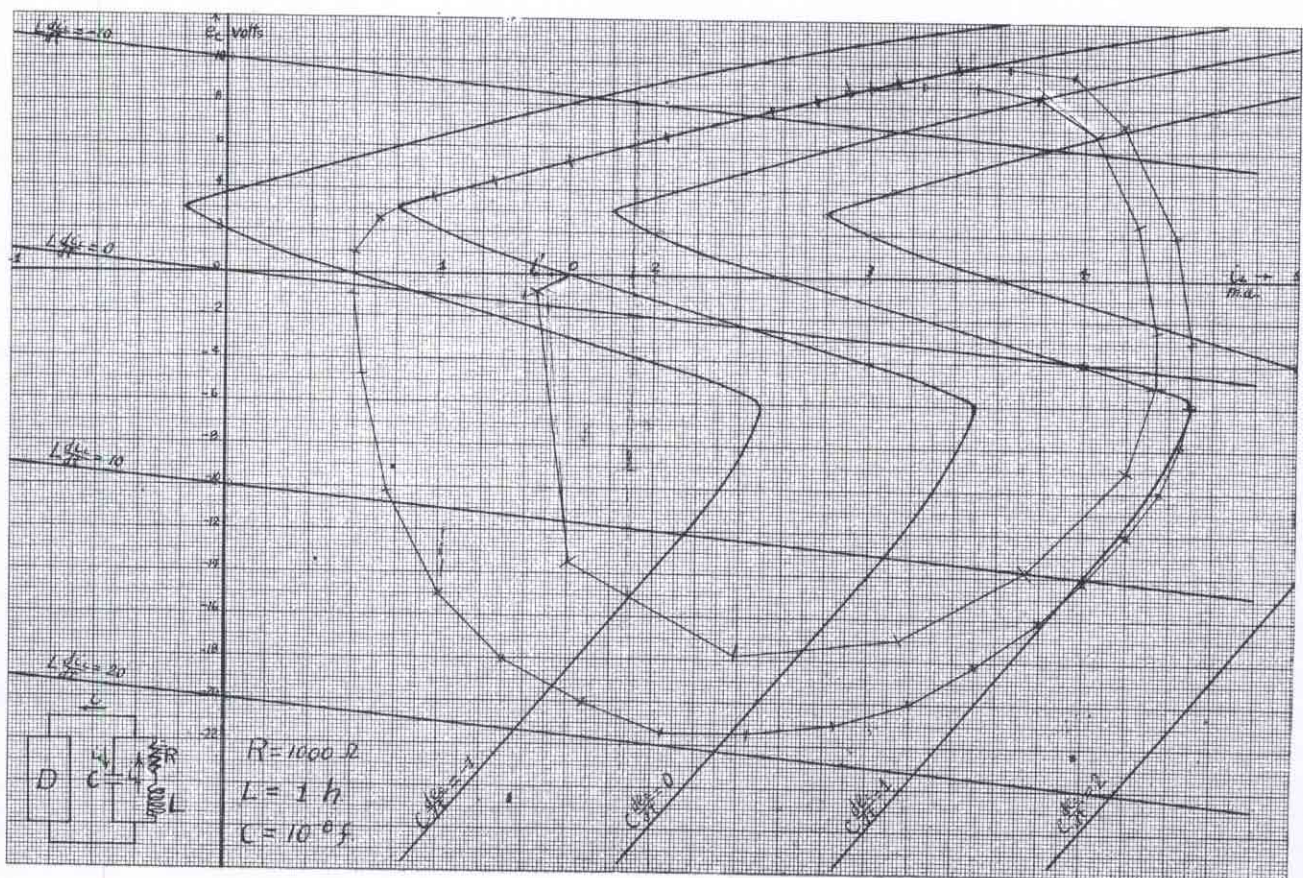

FIGURE 10
Figure 10 shows a complete problem of a relaxation oscillator worked out by the isocline method. Referring to this plot, take the point $e_c = -14$ v, $i_L = +4$ ma; the two
i_L and e_c at the end of this interval would be 1.44 ma and 0 volts respectively. Drawing a straight line between the point $e_c = 0$; $i_L = 1.6$ ma; and $i_L = 1.44$; $e_c = 0$, the segment representing the first approximation to the exact solution is obtained. This segment 0-1' shown in Figure 10 has been so drawn.
So at the end of 10^{-4} sec., i_L and e_c have the values 1.45×10^{-3} amp. and $-.8$ volts respectively. Drawing a straight line between the points $e_c = 0$; $i_L = 1.6$ ma, and $i_L = 1.45 \times 10^{-3}$ amp. and $e_c = -.8$ volts, the segment representing the second approximation to the exact solution is obtained. This segment, 0-1, shown in Figure 10 has been so drawn.
By the repeated application of (5) and (6) in the manner described above, the heavy spiraling curve shown on Figure 10 was obtained. From this spiraling curve the curves of e_c and i_L are readily constructed as functions of time because each chosen time interval corresponds to a particular pair of Δe_c and Δi_L . Figure 11 shows e_c and i_L plotted as functions of time.